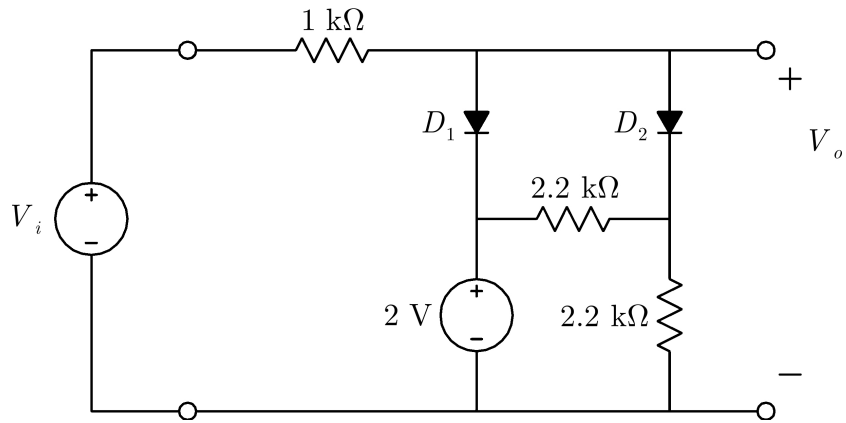

FIGURE 1 –
1. Start *Multisim* and build the circuit of figure 1. Adjust the Maximum time step TMAX simulation parameter to $10\ \mu\text{s}$ using :